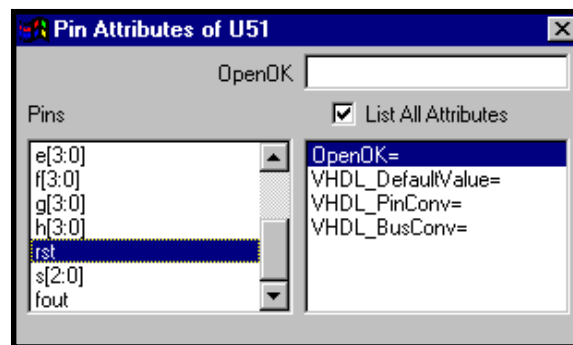

Figure 4-6. Pin Attributes Dialog Box
1. Select the **Edit** ⇒ **Attribute** ⇒ **Pin Attribute** command. The Pin Attributes dialog box appears (Figure 4-6).